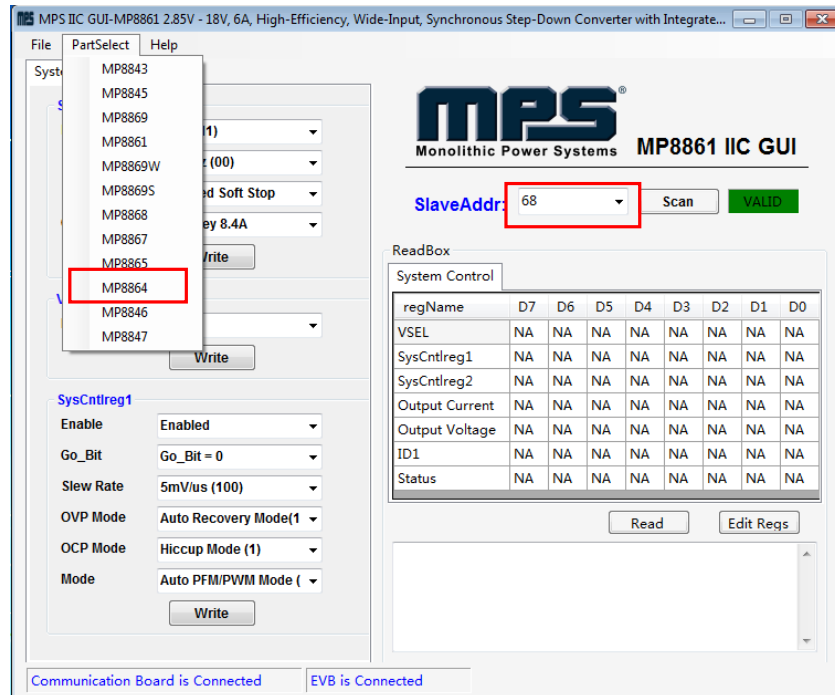
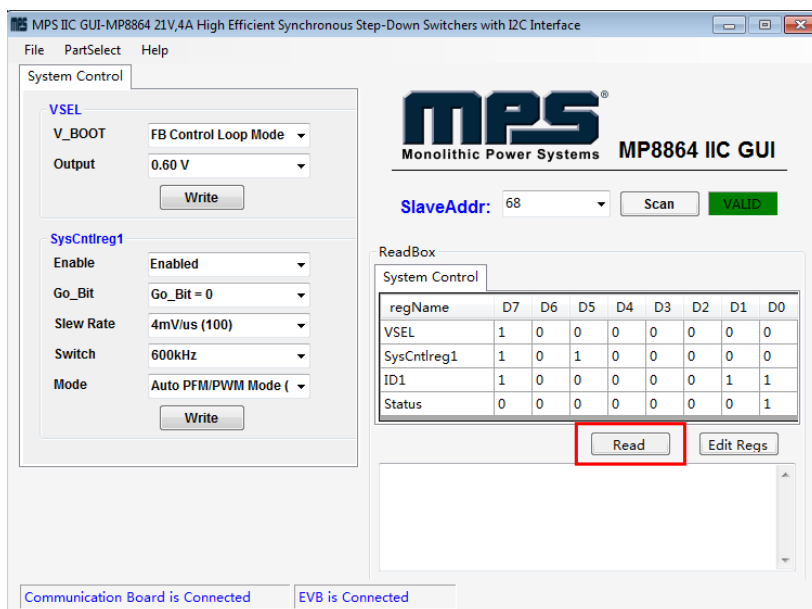

Figure 7: Appearance of Address Shows Successful Connection
Figure 9: Values from I²C Shown in Table
- If connection is successful, the address will be listed in the “Slave Address” (see Figure 7).
- Click the **PartSelect** button to select the MP8864 (see Figure 7) (The default GUI window is for the MP8861). The Register Control menu will appear on the left side. The I²C register values will be read and displayed on the right side after clicking **Read** button (see Figure 9).